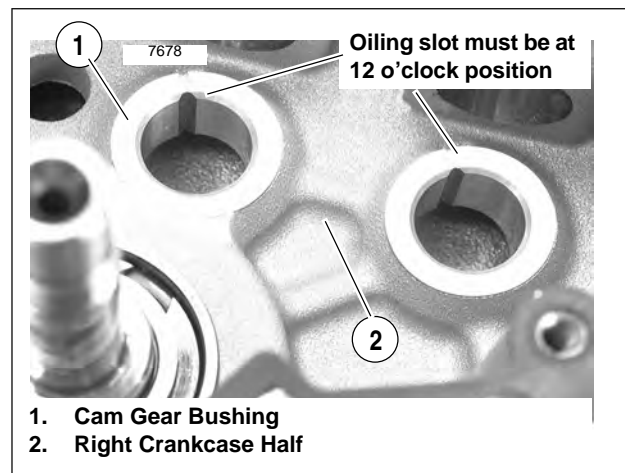

Figure 3-103. Cam Gear Bushing Installed in Crankcase
- See Figure 3-103. Each cam gear bushing, to be installed in right crankcase half, must be positioned in crankcase bore with its oiling slot at crankcase slot.
1. Separate two halves of crankcase, if not already accomplished. Place right crankcase half on flat surface with gearcase side upward. Bushing to be reamed must be oriented as shown in Figure 3-103.